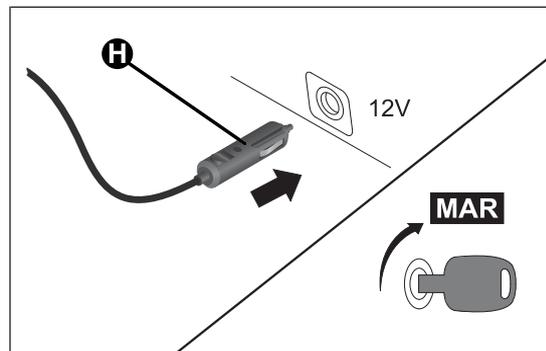

fig. 107
- place the electric plug H fig. 107 in the cigar lighter socket of the car (12 V);